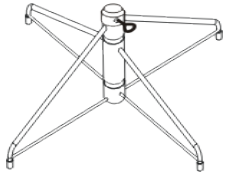

Fig. 3
3. Insert an eye bolt and screw into the hole. (See Fig.3)